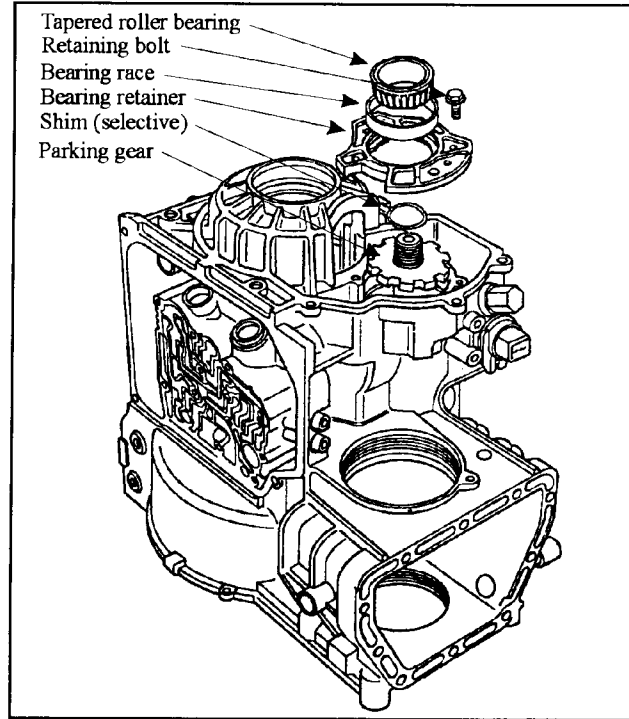

Figure 94
8. Remove the retaining bolts from the bearing cover then carefully lift and remove the cover from the transmission case. Examine the bearing race for wear (See Figure 94).